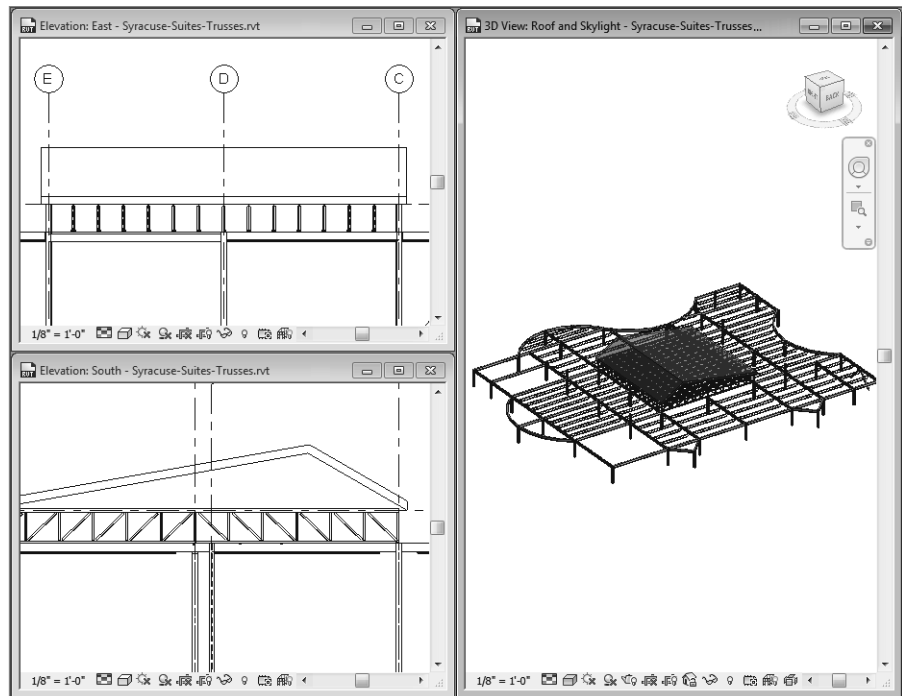

Figure 7–70
- Zoom in on the skylight roof in the two elevation views, similar to that shown in Figure 7–70.